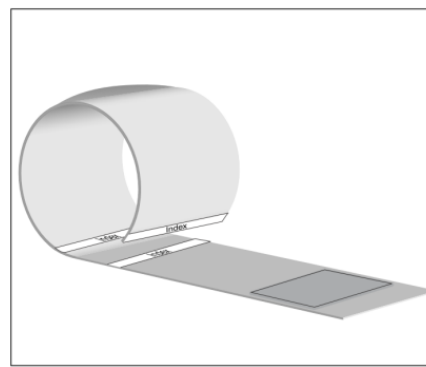

Figure 9: Relevance of the index
- The dashed white line at the end of the cuff is located between the two dashed **Index** Lines, when you close the cuff (if this is not the case, select another cuff size, see Figure 9)